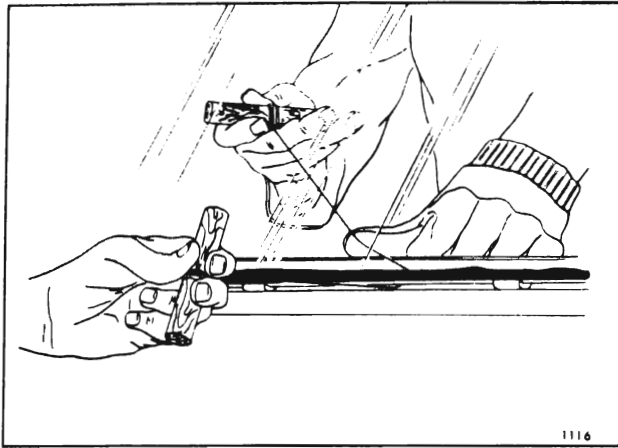

Fig 4-1—Cutting Adhesive Material
3. Secure one end of steel music wire to a piece of wood (for handle) (Fig. 4-1). With the aid of a pair of long nose pliers insert the other end of wire through caulking material at lower inside corner of windshield along side of glass surface; then, secure that end of wire to another piece of wood (for handle).
4. With the aid of a helper, carefully cut (pull steel wire) through caulking material, up one side of glass across top, down opposite side and across bottom of glass (Fig. 4-1). Make sure inside wire is held close to plane of glass to prevent cutting an excessive amount of adhesive caulking material from the glass opening. This can be accomplished by holding the inside wire close to the plane of the glass with one hand while pulling the wire with the other hand. Keep tension on wire throughout cutting operation to prevent "kinks" in wire.